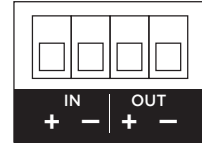

Figure 4: Euroblock Connector
2. Connect the wires from your amplifier to the Euroblock connector (see Figure 4).